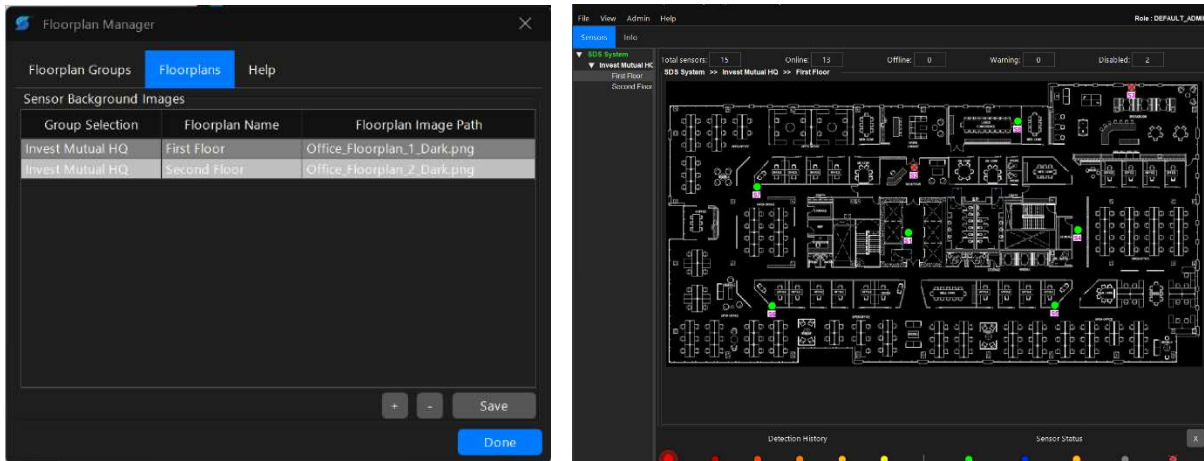

Figure 19 – Adding / Selecting Floorplans
3. Enter Floor Name in **Floorplan Name** field. (See Figure 19 (l))
8. If successful, the floorplans will display on the Start page as shown in Figure 19 (r).